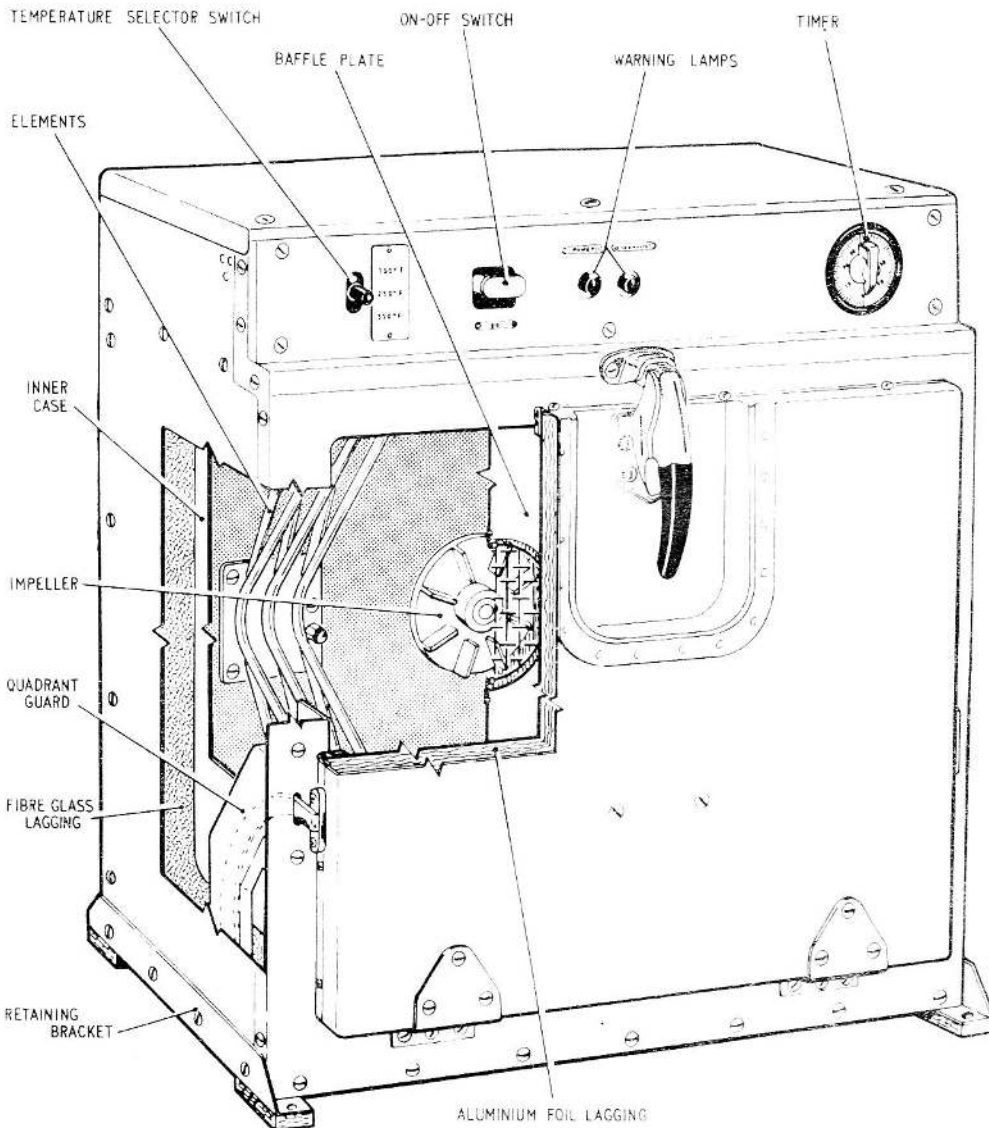

Fig. 1. Part cut-away view
1. The fan circulated oven, G.E.C. Type H.E.47447 M61 is designed to heat pre-cooked frozen food for in-flight catering. The oven has two groups of heating elements and a high speed 3.5 in. fan which circulates hot air around the oven interior, heating the food quickly and evenly. A part cut-away view of the oven is given in fig. 1.